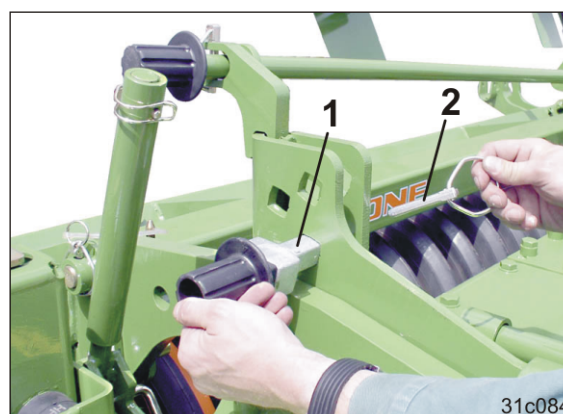

Fig. 81
4. Insert the depth setting pin in the desired position (Fig. 81/1)
5. Secure both depth setting pins using linch pins (Fig. 81/2).
4. Secure both depth setting pins using linch pins (Fig. 81/2).